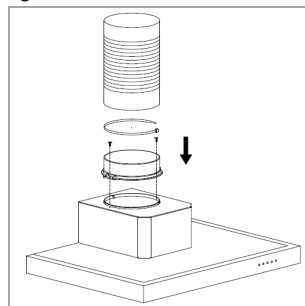

Fig. 3
- Hang up the housing. Check the secure hold and the horizontal position [Fig. 3].